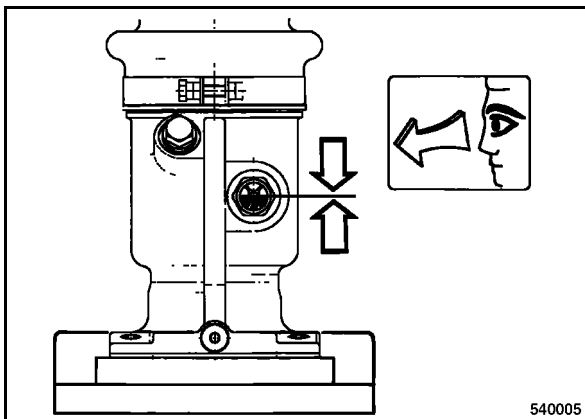

Fig. 40
- Clean the sight glass (Fig. 40).